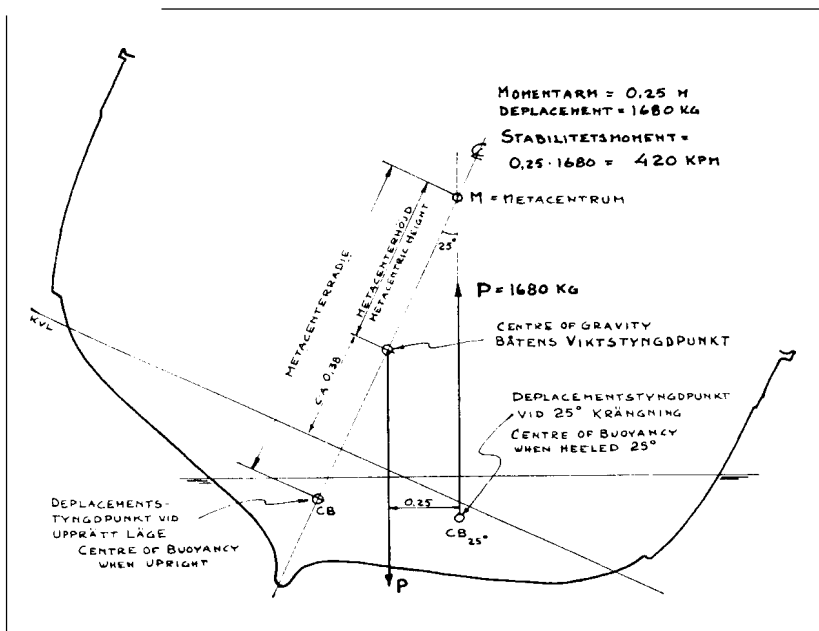
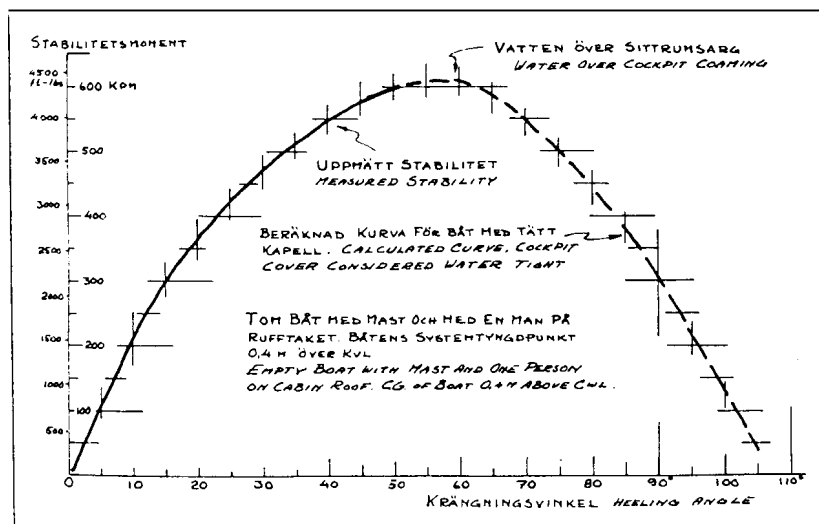

Fig. 4. Section showing stability moment.
Fig. 5. Stability curve.
If the power and length of a motorboat are increased the speed is increased, but if the weight (displacement) is increased, there is a loss of speed. The Albin 25 has been designed around its engine to produce the most efficient boat, obtaining the best speed with available power. This means that the boat must be light. Therefore the necessary stability is achieved by means of a suitable hull shape — giving form stability. Fig. 4 shows just how the force of gravity (P) works from the centre of gravity and how in a heeled position a similar force works vertically up from the centre of displacement. If we multiply displacement (P) (in this case 1680 kilograms) times the length of the moment arm (distance 0.25 metre between the two forces) we get the stability moment which is the "power" which will bring the boat back to an upright position. Heeling an Albin 25 up to 50 degrees (empty boat with mast and boom and one person on the cabin top) the accompanying stability curve was measured a (fig. 5). For heeling angles larger than 50 degrees the stability moment has been calculated as shown. As a comparison the sailboat Vega has about twice as large a stability moment up to heeling angles of 50 degrees. A normally loaded Albin 25 weighs more than the test boat and also has a lower center of gravity. Because of this the loaded boat gains even better stability than the curve shows. It shows that the Albin 25 is as good as uncapsizable and that you can use rig and sail without any risk of capsizing. It also shows that ballast is not necessary from a stability point of view. Ballast decreases speed through increased weight and if the ballast is put deep into the boat it can also give a less comfortable movement to the boat.
Radius of inertia means the distance from the axis of rotation to a theoretical point where the mass of the boat is concentrated when rolling around this axis. The radius of inertia can be considered about the same as the length of a pendulum. The meaning of the meta-centric height is shown in fig. 4 which also shows that this height is a measure of stability. An increase or a decrease of the meta-centric height gives an increase or decrease of stability. Seemingly it is possible to lengthen the period of roll through decreasing the meta-centric height (the same as raising the center of gravity of the boat which is the
Increased stability is not necessary. This is clearly shown in the stability curve fig. 5. When the weight of the boat is increased with equipment, provisions etc., the stability is increased and much more so if everything is stowed deep down in the boat.